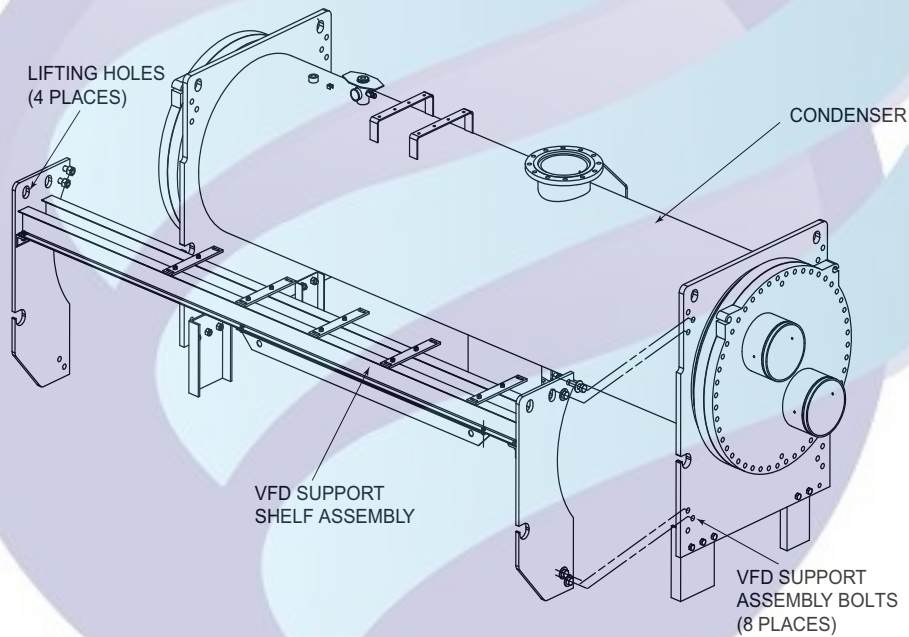

Fig. 28 — 900A or 1200A VFD Support Assembly Installation
3. The VFD support assembly can be removed from the condenser if it is necessary to reduce the width of the condenser assembly. The eight 1 1/8-7 bolts that secure the VFD support assembly to the tubesheets should be torqued to 750 ft-lb (1017 N-m) when the support assembly is reinstalled. See Fig. 28.